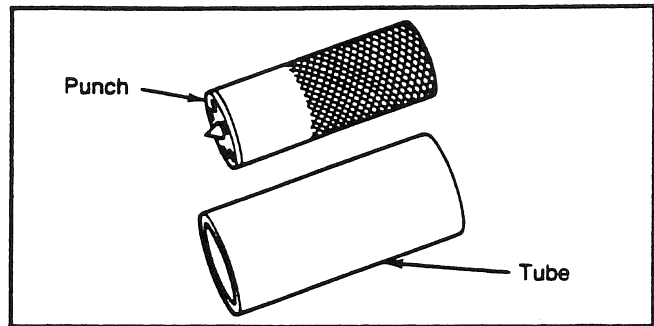

Fig. 32
- For spigot bearings staked to the drive pinion, there should be a minimum of five staking points. Use a two-piece staking tool, consisting of a tube and punch (see Fig. 32). Calculate the staking pressure as follows: